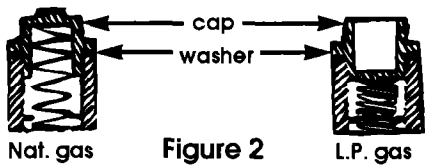

Figure 2
1. Remove the cap marked "NAT," and turn it over so it reads "LP." Then replace the cap. Do Not disturb or remove the spring beneath the cap. Check that the fiber washer is between the cap and the body of the regulator. See Figure 2 for the correct position on cap.